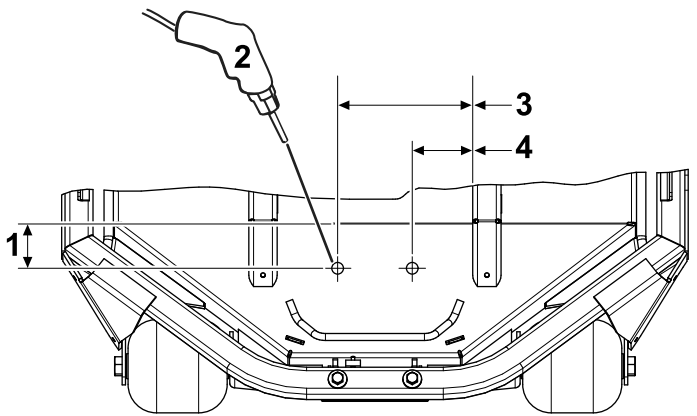

Figure 1
2. Using the dimensions shown in Figure 1, locate and drill two 7/16 inch diameter holes through the cutting unit.